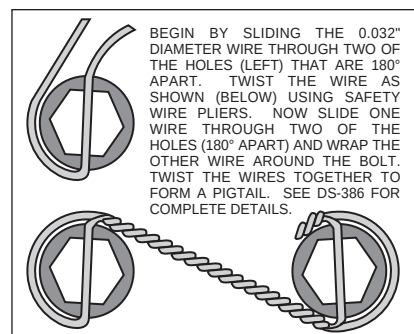

Figure 4. Safety Wire Diagram
- Slide the bracket kit assembly (1) onto the housing flange and then insert the axle assembly through the center hole of the bracket kit assembly (1). Secure using the stock Original Equipment Manufacturer (OEM) bolts and nuts. Stock OEM hex nuts that retain the bracket kit assembly (1) should be on the wheel side of the bracket. Apply red *Loctite*® 271 to the stock OEM bolt threads and torque to OEM specifications. Make sure the bracket kit assembly (1) brake pads are FACING OUTWARD TOWARDS THE WHEEL.
- With the larger I.D. side of the rotor (3) facing away from the hat (2), bolt rotor (3) to hat (2) through the backside of the rotor using washers (4) and bolts (5). Using an alternating sequence, apply red *Loctite*® 271 to the threads and torque bolts to 140 in-lb. For an added measure of security, the bolts may be safety wired using standard 0.032 inch diameter stainless steel safety wire as shown in Figure 4. Please refer to Wilwood's data sheet DS-386 (available at www.wilwood.com/Pdf/DataSheets/ds386.pdf) for complete safety wire installation instructions.